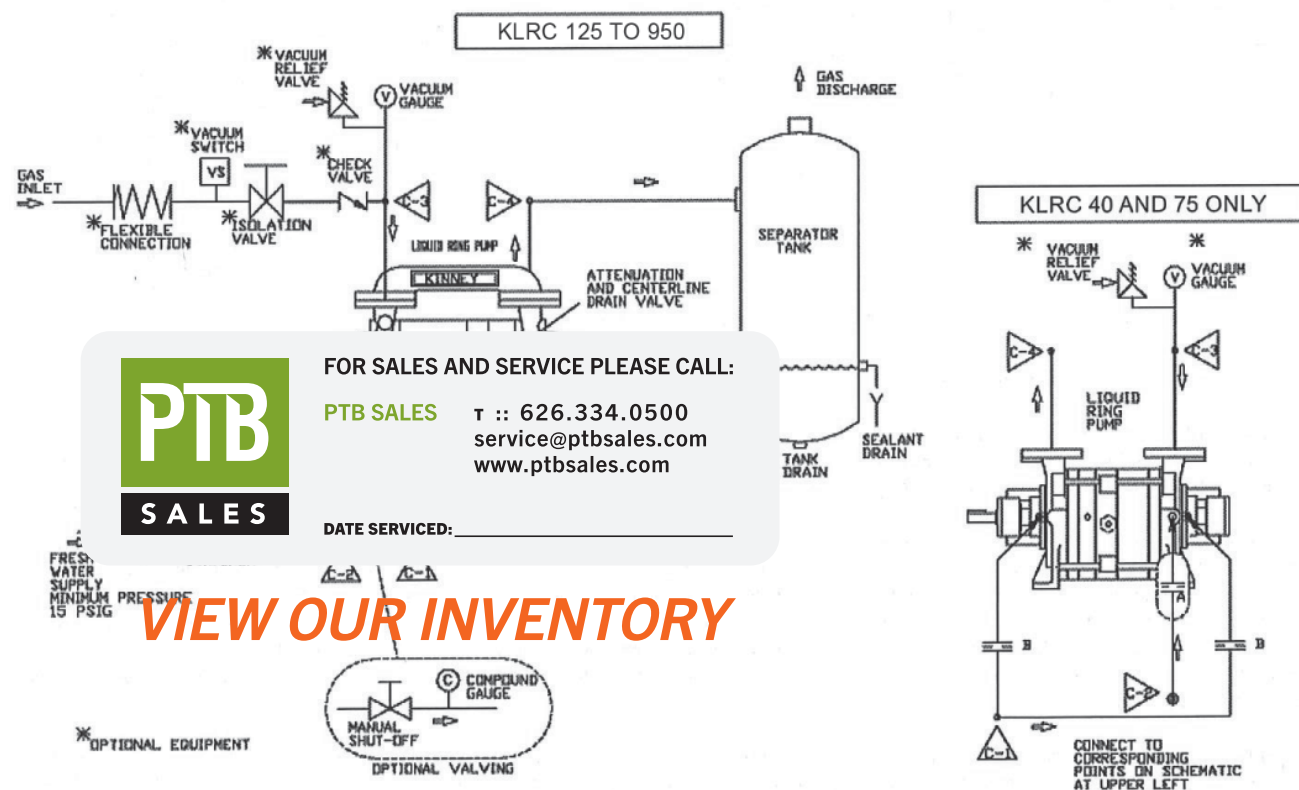
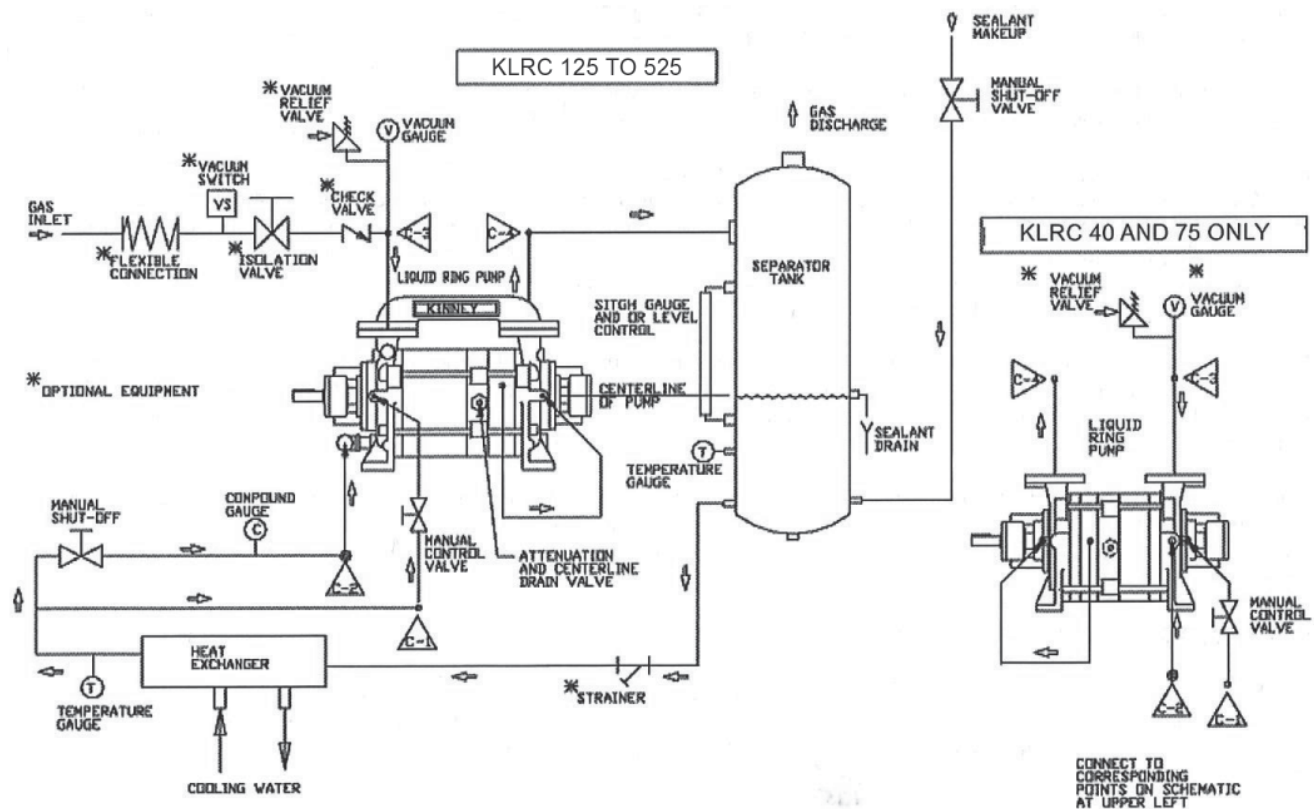

Figure 3-1 – Piping Schematic Once-Through Recovery System
Figure 3-4 – Piping Schematic: Full Sealant Recovery System without Circulating Pump
Figure 3-1 on page 7 through Figure 3-4 on page 10 illustrate sealant configurations:
- Once-Through (Figure 3-1)
- Full Recovery without Circulating (Figure 3-4)
Sealant must be piped to the mechanical seals in order to keep the seal faces cooled and lubricated. The seals will fail if a suitable flow of sealant is not supplied. The sealant must be clean and free of particulates. Dirt or grit will cause the seal faces to wear and fail prematurely. Connect the sealant piping to the seals as shown in **Figure 3-1 on page 7** through **Figure 3-4 on page 10**. Note that the connections to the pump are different for KLRC-40 and -75 compared to KLRC-125 to -950.
The suction and discharge ports are distinguishable by arrows on the pump, and are also shown in **Figure 3-1 on page 7** through **Figure 3-4 on page 10**. Note that the discharge port on the KLRC-40 and KLRC-75 are at the shaft drive end, whereas on the KLRC-125 to KLRC-950 the discharge port is at the non-drive end. The discharge leg should not have more than 24 inches of elevation from the pump discharge flange. Too much elevation in this line would cause a buildup of back pressure, overload the motor, and reduce the efficiency of the pump. During initial operation, install a screen across the incoming port of the suction end casing to prevent abrasive particles from entering the pump. Remove any accumulation in the screen often enough to prevent restriction of gas flow. Remove the screen when particulate accumulation no longer occurs.